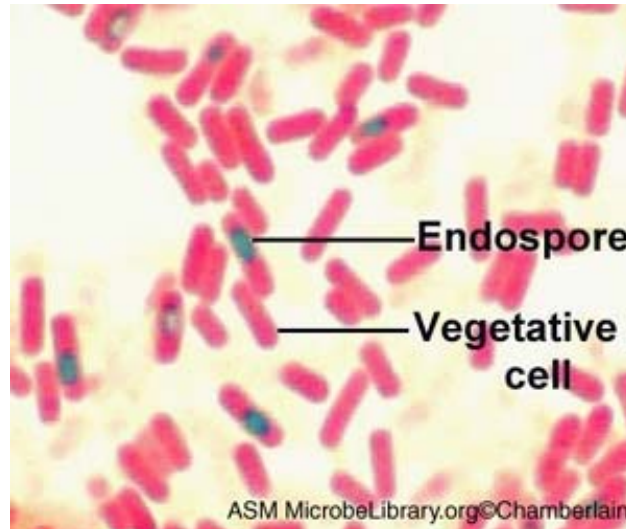

Figure 2. Spores of *Bacillus* sp. seen under a microscope
- f. Rinse with water, dry and observe with the oil immersion Lens (Figure 2.).